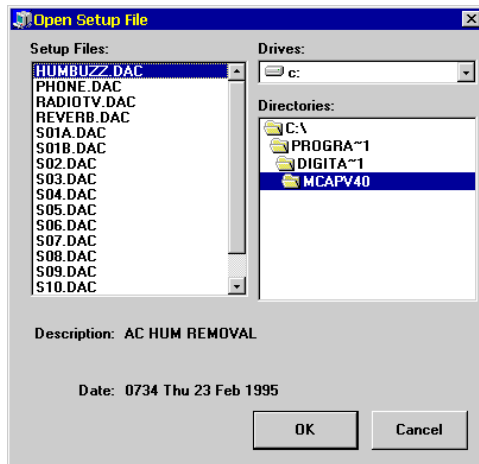

Figure 3-3 Fast Start Open Setup File Window
- 9. Click on **Open Setup File** to bring up a window similar to Figure 3-3: